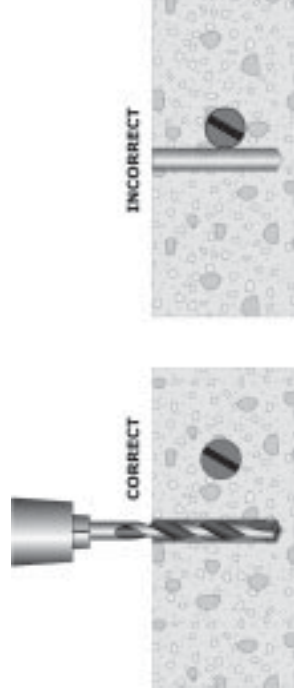

Figure 130: Drilling into concrete with rebar.
**If you strike steel reinforcement when drilling, you must have the damage inspected. As directed, fill the hole with approved grout and select a new location according to minimum spacing requirements. Drill a new hole (see Figure 130, page 107).**